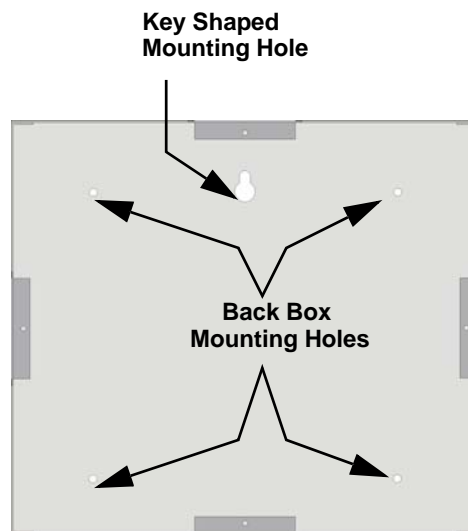

Figure 4-20 Back Box Surface Mount Holes
- To properly mount the back box, insert a single screw into the key shaped mounting hole. Do not tighten all the way. See Figure 4-20.